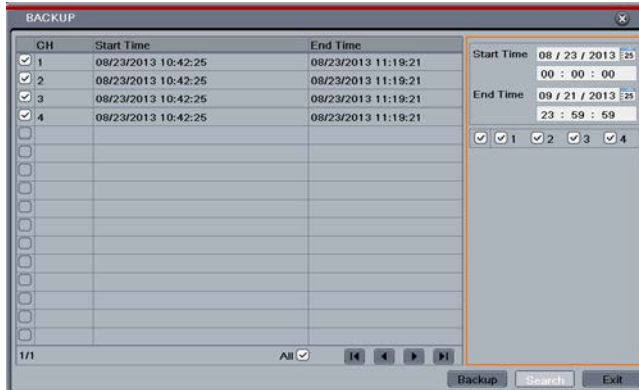

Fig 6-4 Backup Configuration
Step 1: Enter into backup configuration. Refer to Fig 6-4: